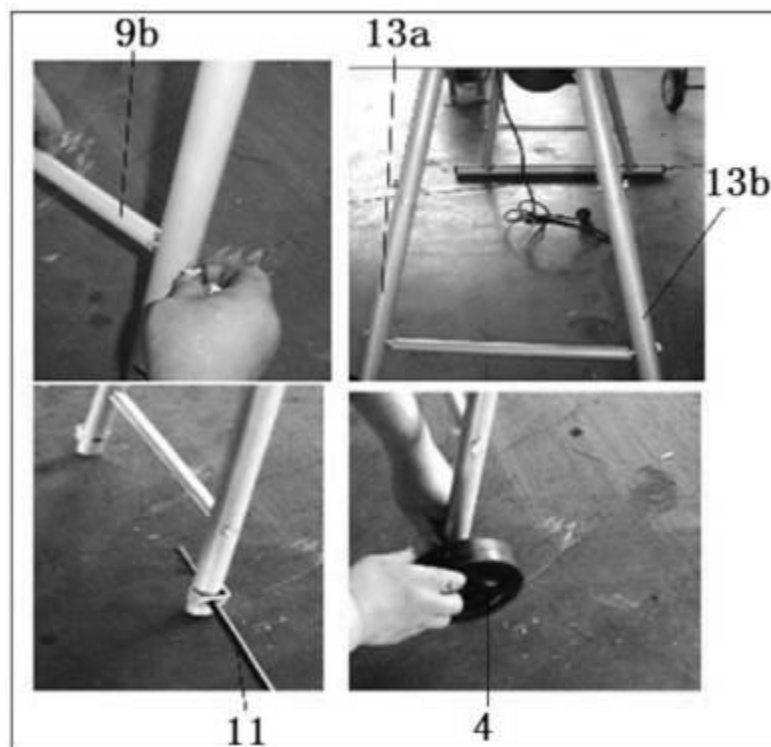

fig.5
d) Connect horizontal shaft (9b) to back stand (13a&13b) with bolts, assemble the wheel shaft (11) and wheels with four spring washers, the last fit wheel covers (fig.5).